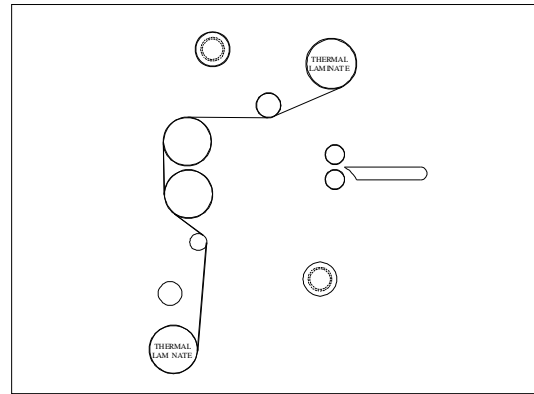

Figure 20
5. Pull the lower film behind the lower idler bar, Lower the table Pull Film up towards the film draped over the top heat roller and adhere the Lower Film to the upper Film (Fig. 20).